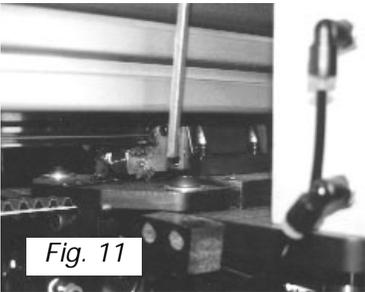

Fig. 11
- b. Using a 3/16" allen wrench, loosen the two 5/16" - 18 x 3/4" button head allen screws on the tension bracket assembly. (See Fig. 11)